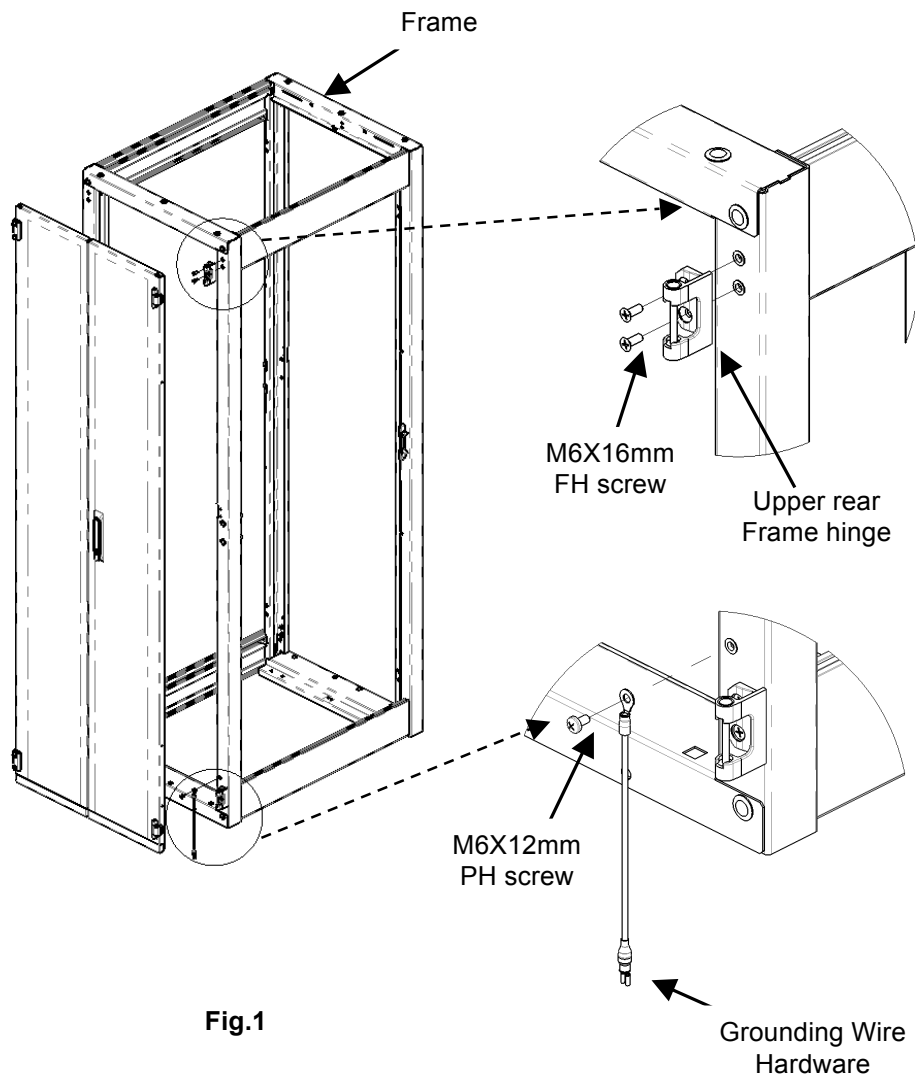

Fig.1
1. Attach the hinges to each side of the frame using two M6 flat head screws per hinge (Fig.1).
2. For the bonding jumper wire, use an M6 pan head screw to attach the end with the ring terminal to the frame threaded insert nearest to the bottom door hinge. Orient ring terminal as shown (Fig.1).